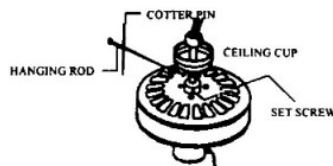

FIGURE 2
3. Insert the rod in the fan and line up with holes to hang. Insert cotter pin in the hole, incline upward and secure the ends. To avoid any knocking, secure the cotter pin away from the motor as shown in Fig. 2.